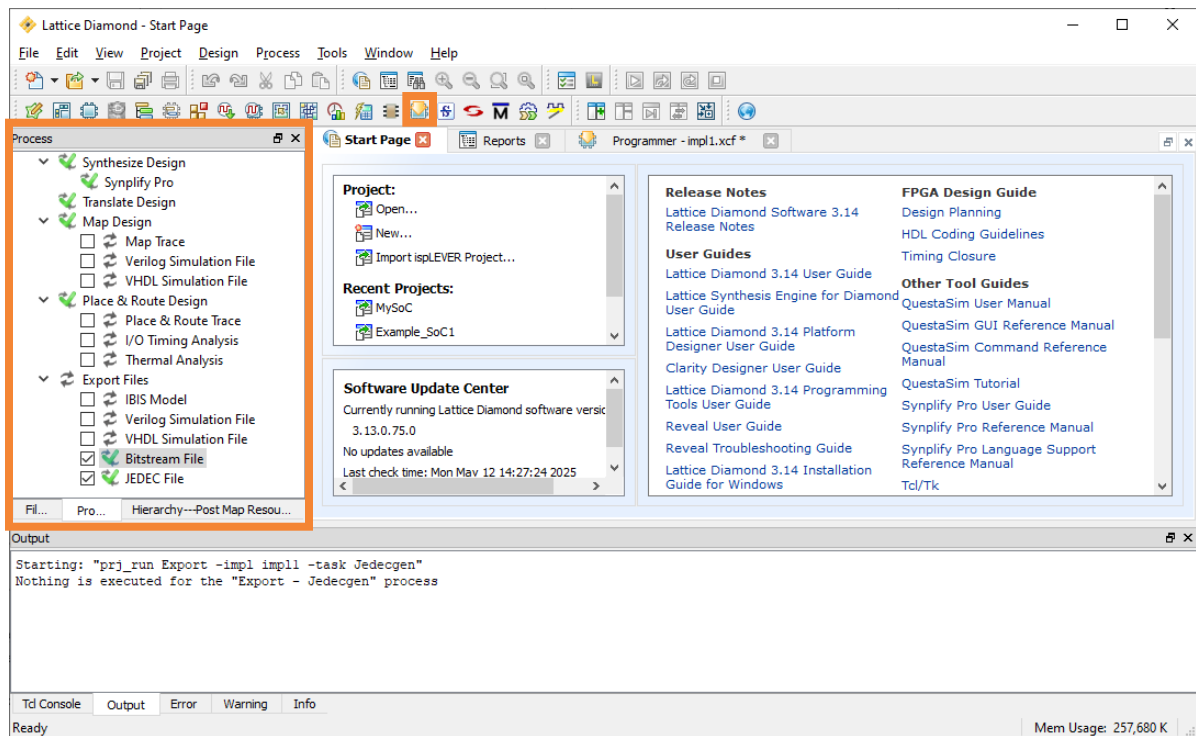

Figure 6.15. Generating the Programming File Successfully
Once the programming file is exported successfully in the last section (Figure 6.15), you can program the target device. Make sure the evaluation board is powered ON and connected correctly to the host PC before performing the following procedure.
1. Click the **Programmer** icon  on the toolbar of the Lattice Diamond **Project Explorer** (Figure 6.15).